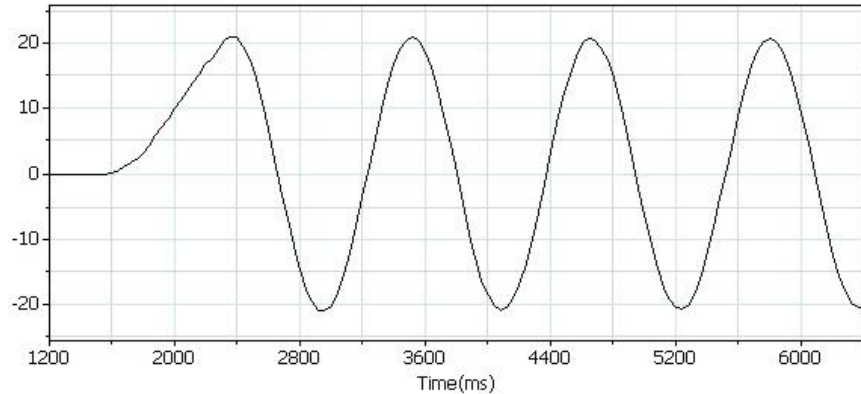

Figure 2
1. Zoom in on the graph using the **Zoom** tool () on the **Graph** toolbar to display four or five periods of the oscillation (see Figure 2 below).